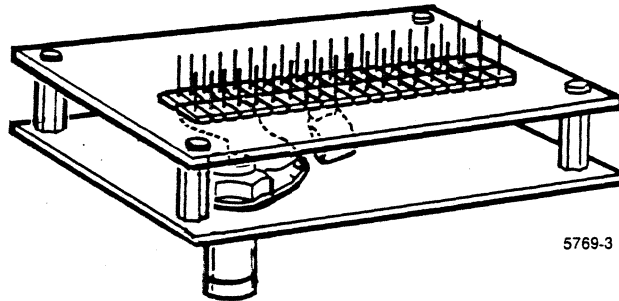

Figure 5-1. Threshold test fixture for 91HS8/91HSE8.
1. Cut two matching pieces of vector board (25 holes wide by 12 holes long). Cut a hole in one piece of vector board to accommodate the BNC connector. This can be done by cutting between pairs of holes with side cutters. Mount the BNC connector and solder lug as shown in Figure 5-1.